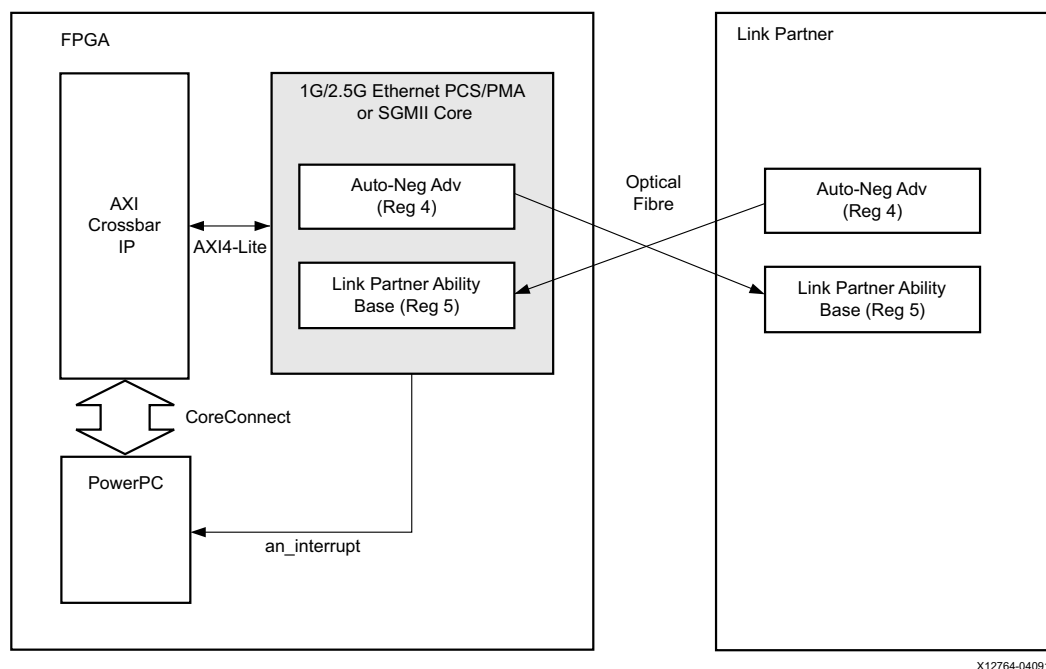

Figure 3-15: 1000BASE-X Auto-Negotiation Overview
IEEE 802.3 Clause 37 [Ref 1] describes the 1000BASE-X Auto-Negotiation function that allows a device to advertise the modes of operation that it supports to a device at the remote end of a link segment (the link partner) and to detect corresponding operational modes that the link partner advertises. Figure 3-15 shows the operation of 1000BASE-X Auto-Negotiation.
- The PHY then passes the results of the Auto-Negotiation process with the link partner to the core (in SGMII mode), by leveraging the 1000BASE-X Auto-Negotiation specification described in Figure 3-15. This transfers the results of the Link Partner Auto-Negotiation across the SGMII and is the only Auto-Negotiation observed by the core.
- There are no other differences and dealing with the results of Auto-Negotiation can be handled as described previously in Figure 3-15.